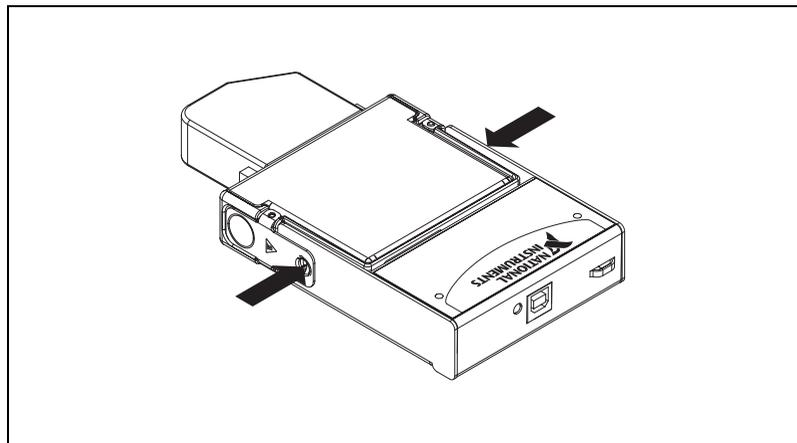

Figure 5. Locking Module into Place
5. Press firmly on the connector side of the NI 9472 module until the latches lock the module into place, as shown in Figure 5.